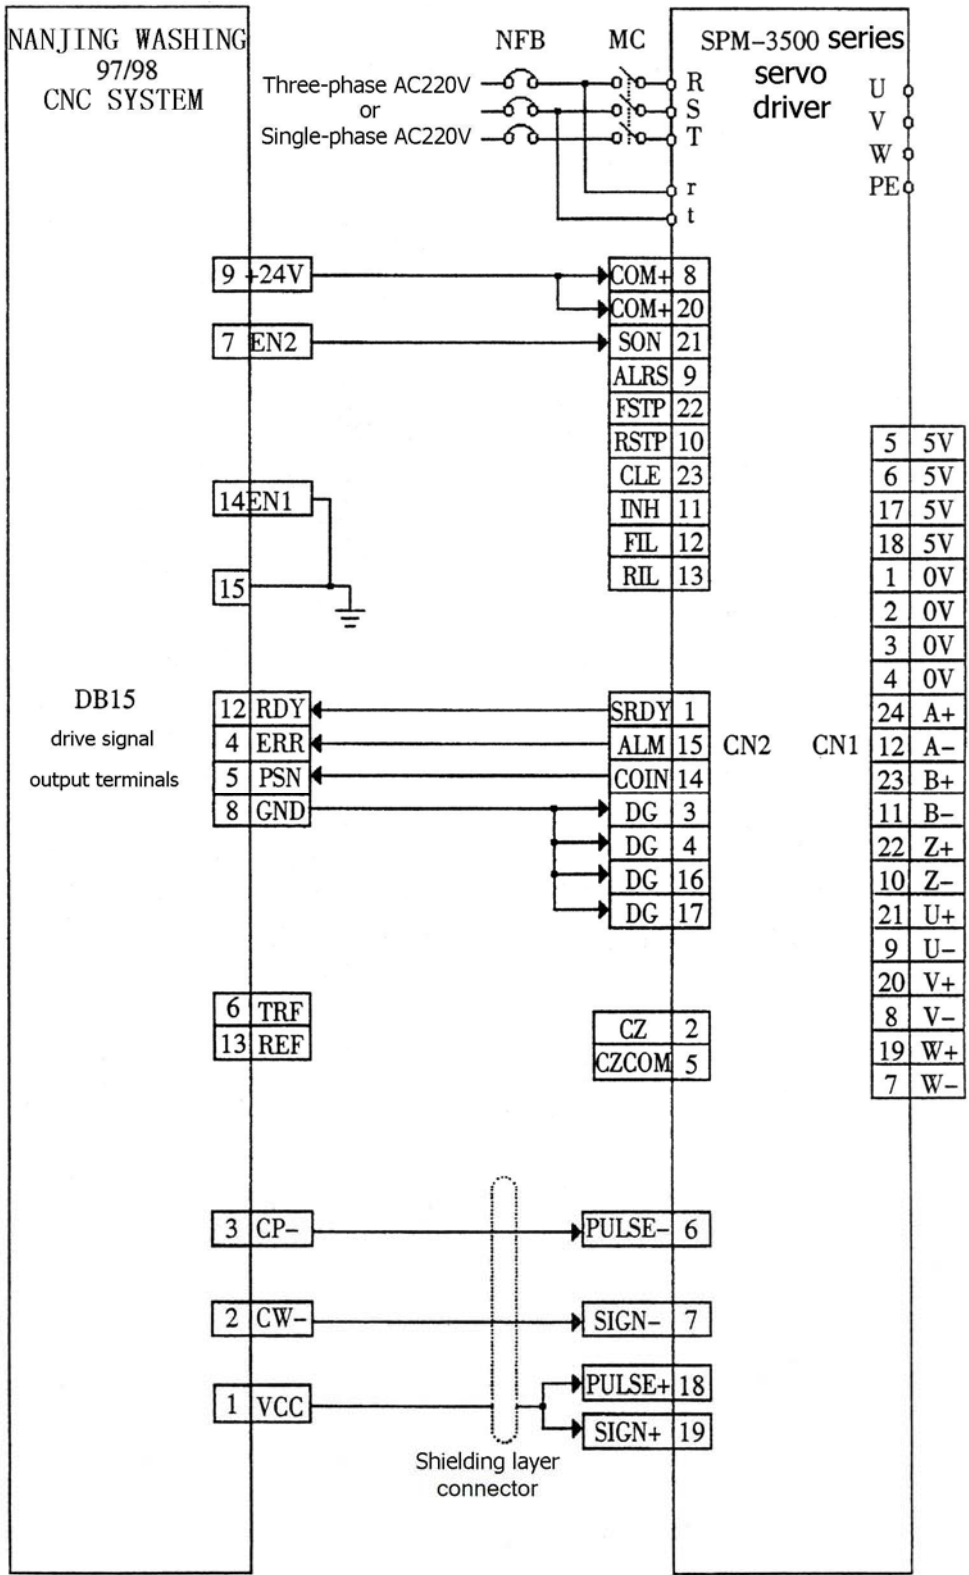

Fig 5.2 Standard wiring for position control mode between the driver and our company's 97/98 CNC system;
- 2) Fig 5.2 shows: The standard wiring for position control mode between the driver and our company's 97/98 CNC system;